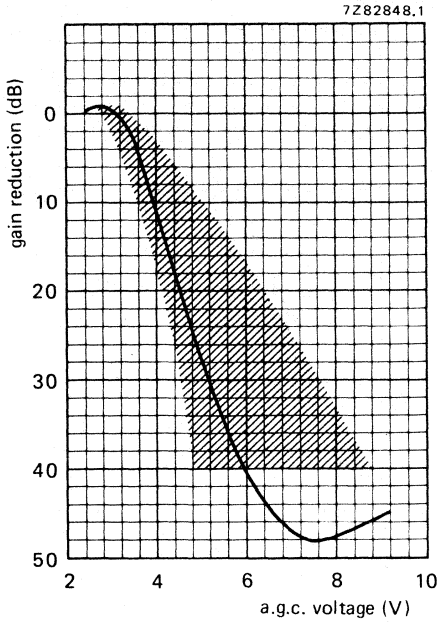

Fig. 5 Low v.h.f. band.
**A.G.C. voltage (Figs 5, 6 and 7)**